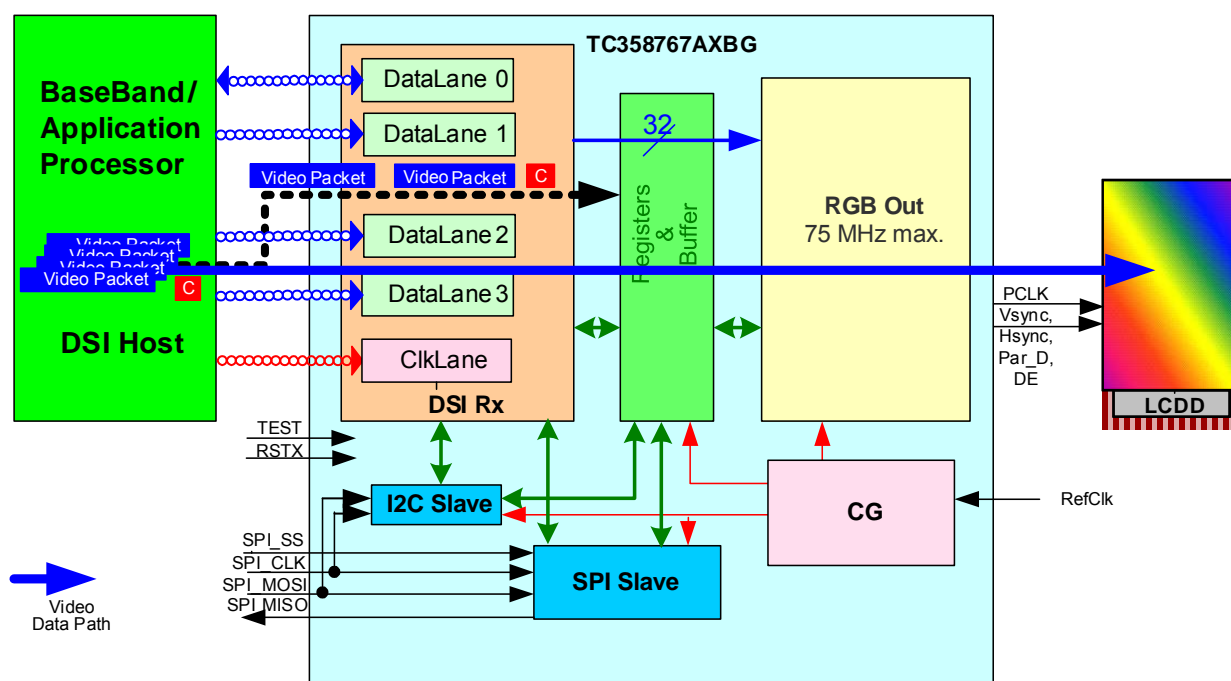

Figure 1.3 System Overview with TC358767AXBG in MODE_S2P Configuration
- **Mode_S2P:** A system configuration where TC358767AXBG may typically be used is shown in Figure 1.3. In this mode, DisplayPort output is not used and the chip rather behaves as a DSI to RGB convertor. In this system, TC358767AXBG could be connected to a single display. In this configuration, the TC358767AXBG can support displays with resolution up to WXGA (1280x800 or 1366x768). Max. output PCLK is 100MHz. Video stream source is from DSI Host.